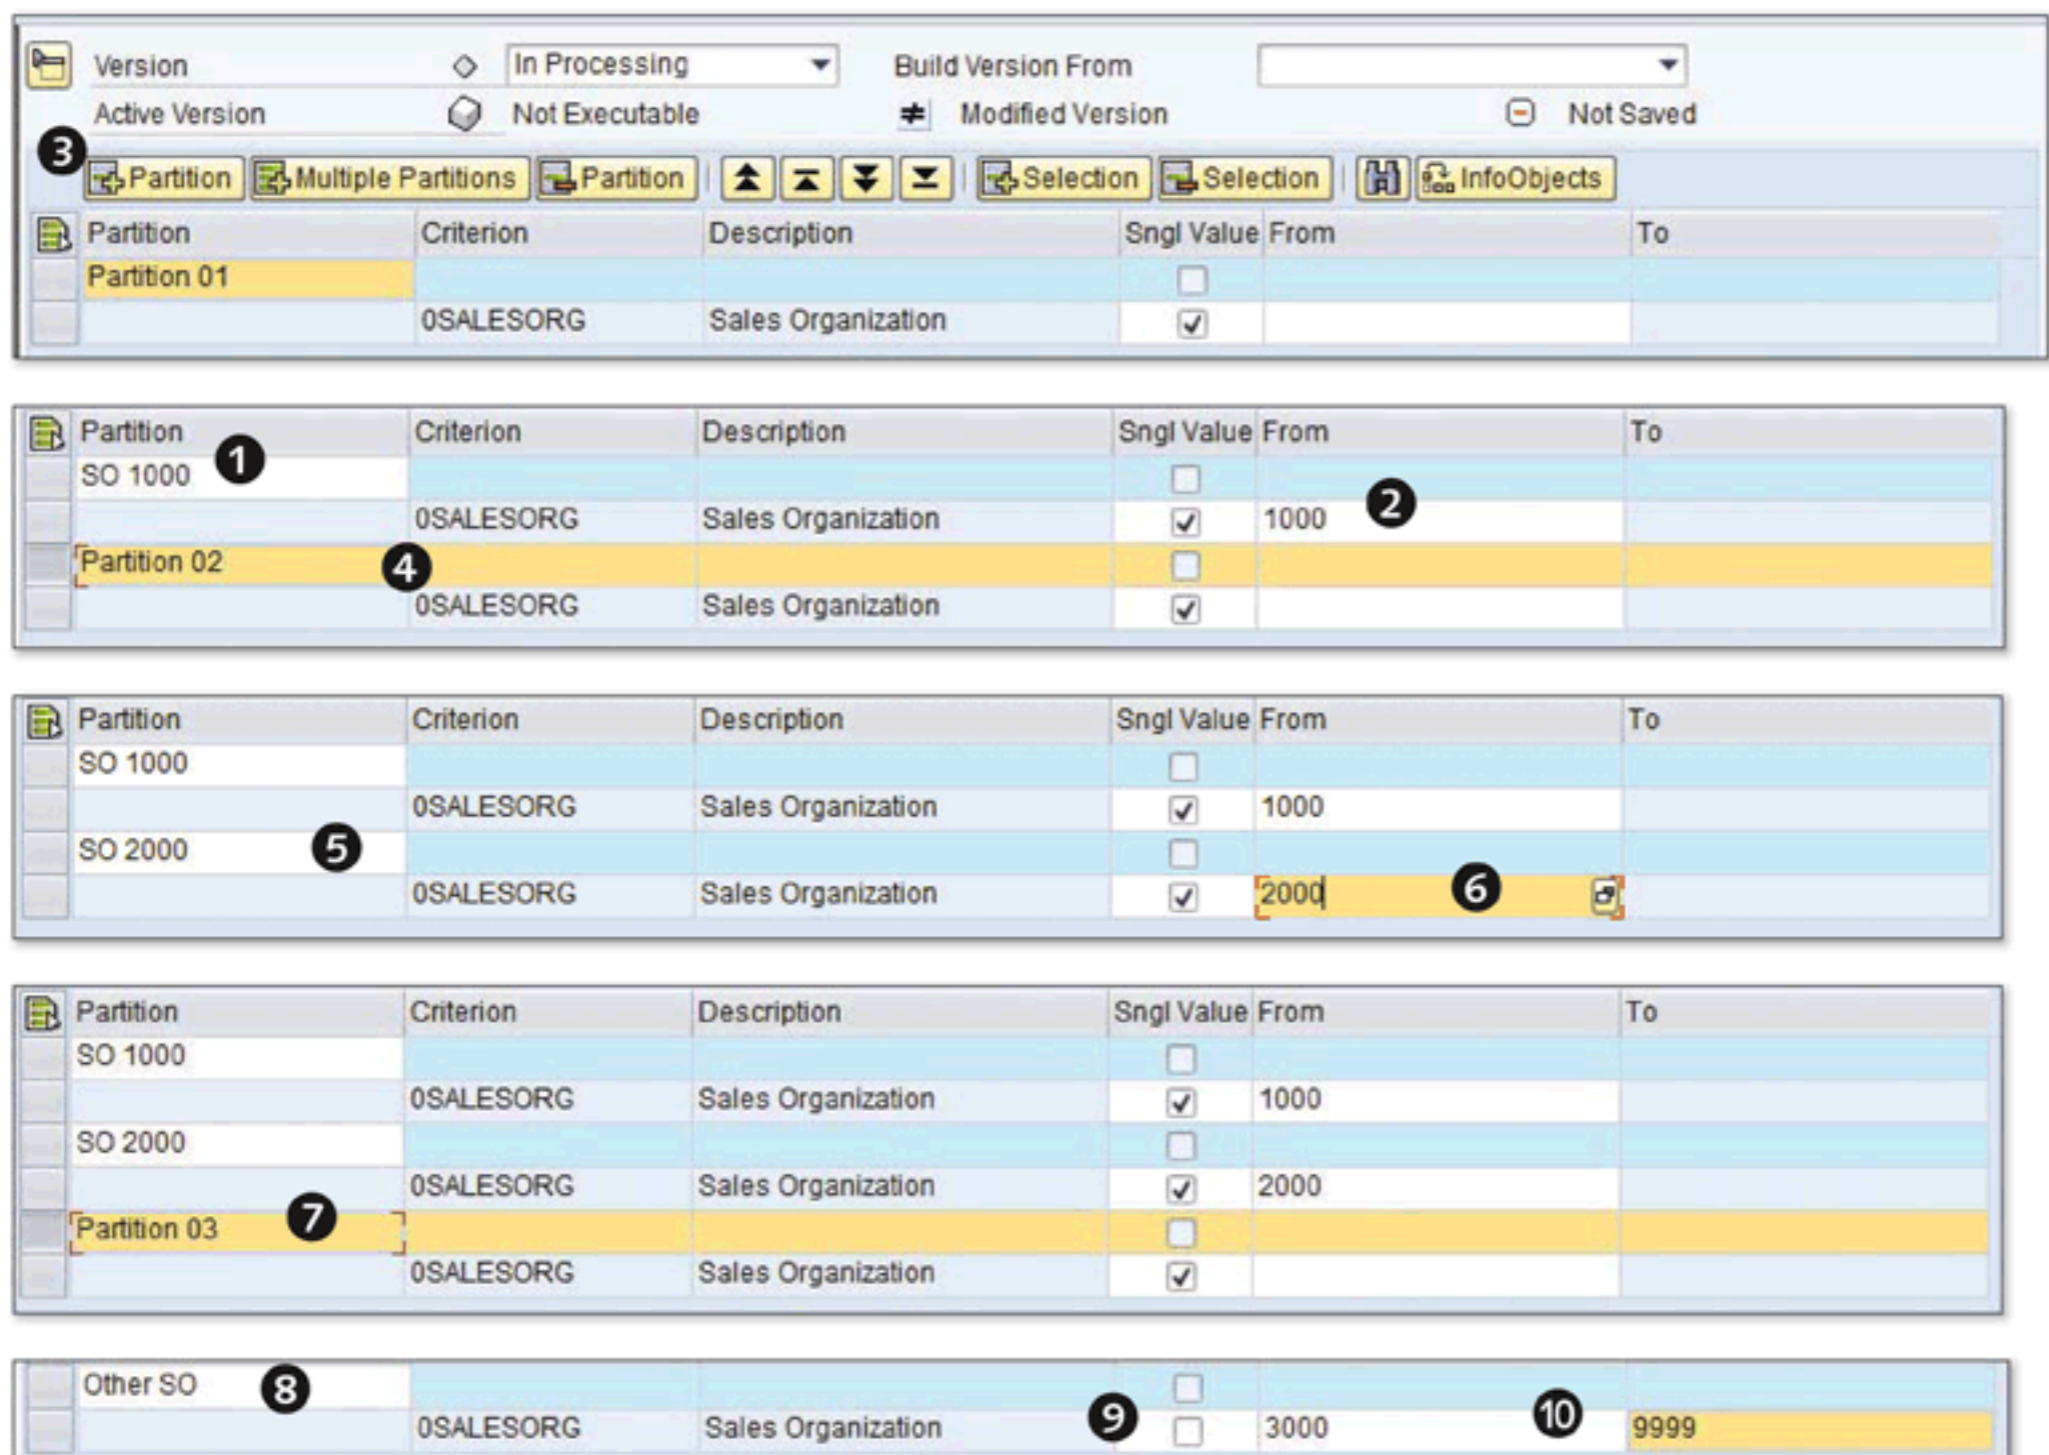

Figure 6.43 Adding Partitions
Our example needs three partitions based on SALES ORGANIZATION 1000 (first partition), 2000 (second partition), and 3000 to 9999 (third partition). The procedure to configure this is shown in Figure 6.43.
Rename the first partition "SO 1000," as shown in ❶ of Figure 6.43. Also assign the value 1000 to SALES ORGANIZATION in the FROM column, as shown in ❷. In order to add a new partition, click on the PARTITION button, as shown in ❸. This action adds one more blank partition, PARTITION 02, as shown in ❹. Rename this to "SO 2000" with the value 2000 assigned to it, as shown in ❺ and ❻. To add the third partition, repeat the process. Rename this new partition "Other SO", remove the SINGLE VALUE flag, assign the value 3000 in the FROM column, and the value 9999 in the To column, as shown in ❸, ❹ and ❺ of Figure 6.43. The final screen should look like the one shown in Figure 6.44.